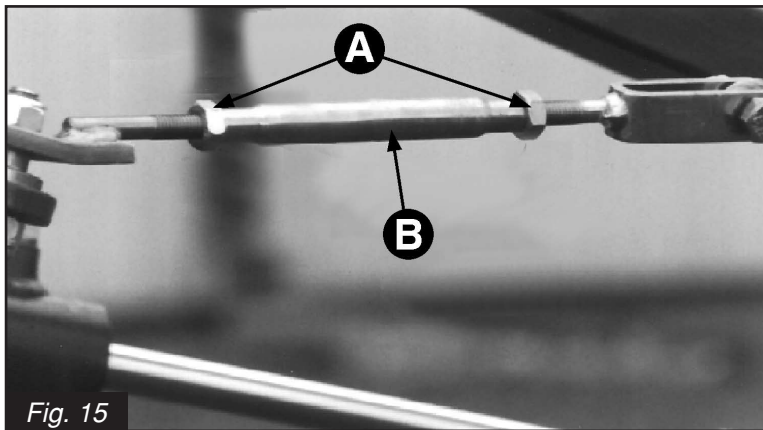

Fig. 15
5. Loosen jam nuts **(A)**(Fig. 15) on the turnbuckle assembly and adjust turnbuckle **(B)**(Fig. 15) for proper cable deflection.
6. Tighten jam nuts **(A)**(Fig. 15) and remove weight.